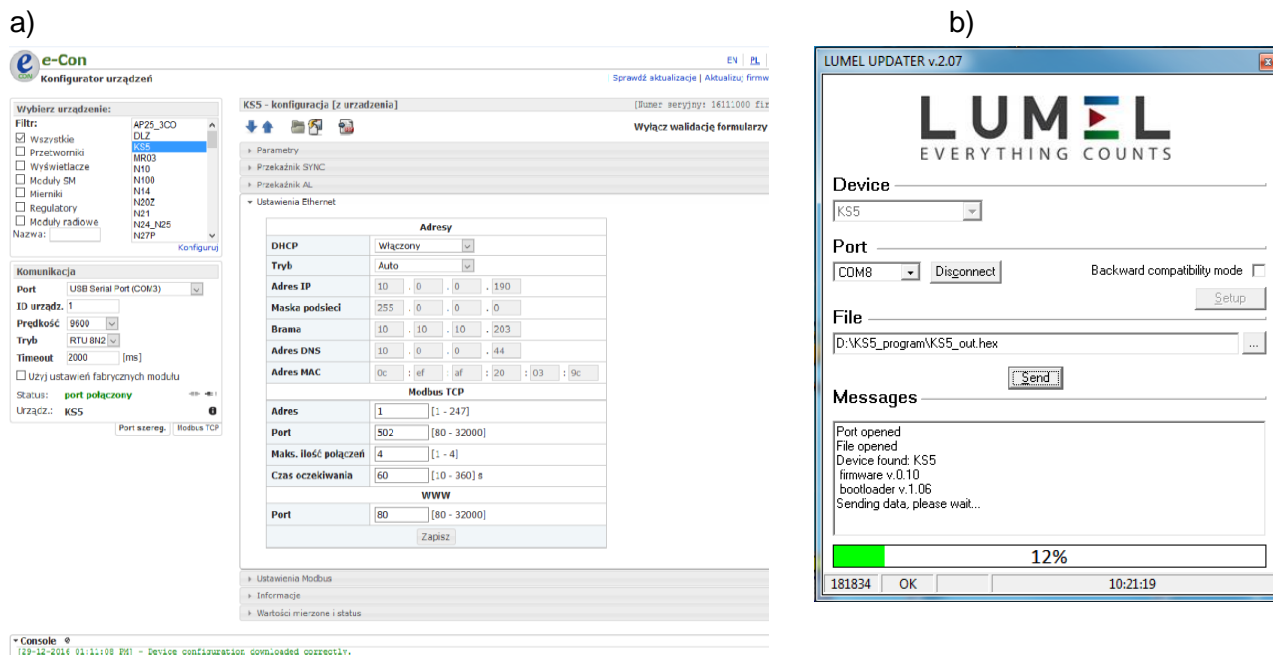

Fig.22. View of program window: a) eCon, b) firmware upgrade
After starting eCon the serial port, speed, mode and meter address should be set in the settings. Then select KS5 meter and click *Configure*. To read all the settings, click the down arrow, then the floppy icon to save the settings to a file (to restore them later). After selecting *Update firmware* (in the upper right corner of the screen) *Lumel Updater* (LU) window will open - Fig. 22 b. Press *Connect*. *Messages* information window contains info about the progress of the upgrade process. When the port is properly opened the display shows: *Port opened*. There are two ways to enter the upgrade mode: remotely through the LU (based on settings in eCon - address, mode, speed, COM port) and by turning on the meter power by pushing the button  (when entering the bootloader mode with the button, communication parameters: speed 9600, RTU8N2, address 1). The display will show boot with bootloader version, and LU program will show the message *Device found* and the name and program version of the connected device. Press the "..." button and select the meter update file. When the file is properly opened the following message is displayed *File opened*. Press *Send* button. After successful upgrade the monitor switches to normal operation, and the information window shows *Done* and the upgrade duration. After closing the LU window, go to *Service Parameters*, select *Set Meter Defaults* and press the *Restore* button. Then press the folder icon to open the previously saved settings file and press the up arrow to save the settings in the meter. The current software version can also be checked by reading the greeting